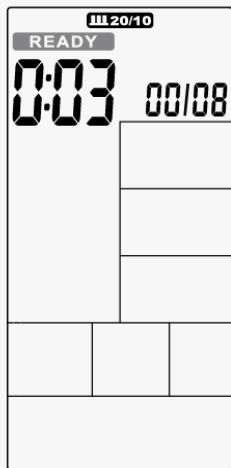

Figure 28
2. Cycle time counts down from 3 to 0 then console start, meanwhile buzzer beeps once per second and READY flashes once per second, counting displays '00/08'(Figure 28).